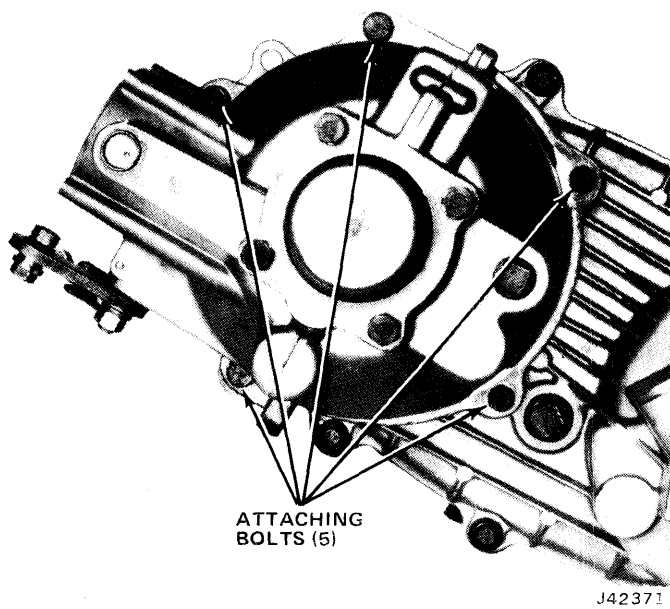

Fig. 8-21 Reduction Unit Attaching Bolts
(1) Raise vehicle.
(2) Loosen bolts attaching reduction unit to transfer case cover (fig. 8-21).
(3) Move reduction unit rearward just far enough to allow oil to drain from unit.
(4) Disconnect shift linkage at reduction unit control lever.
(5) When oil has drained, remove bolts attaching reduction unit to transfer case cover.
(6) Move reduction unit rearward to clear transmission output shaft and pinion cage which is attached to transfer case drive sprocket.